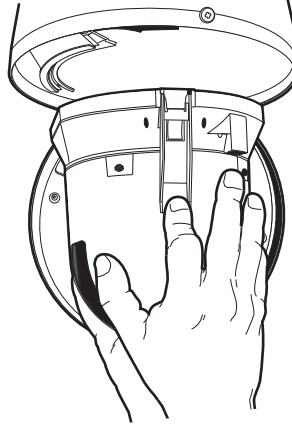

Figure 7. Spectra IV Dome Drive Installation
2. Install the dome drive (refer to Figure 7). Line up the blue and red tabs with the blue and red labels. When pushing the tabs in, insert the red tab first, and then the blue tab. Continue pushing on the ends of the tabs until both tabs click into place.